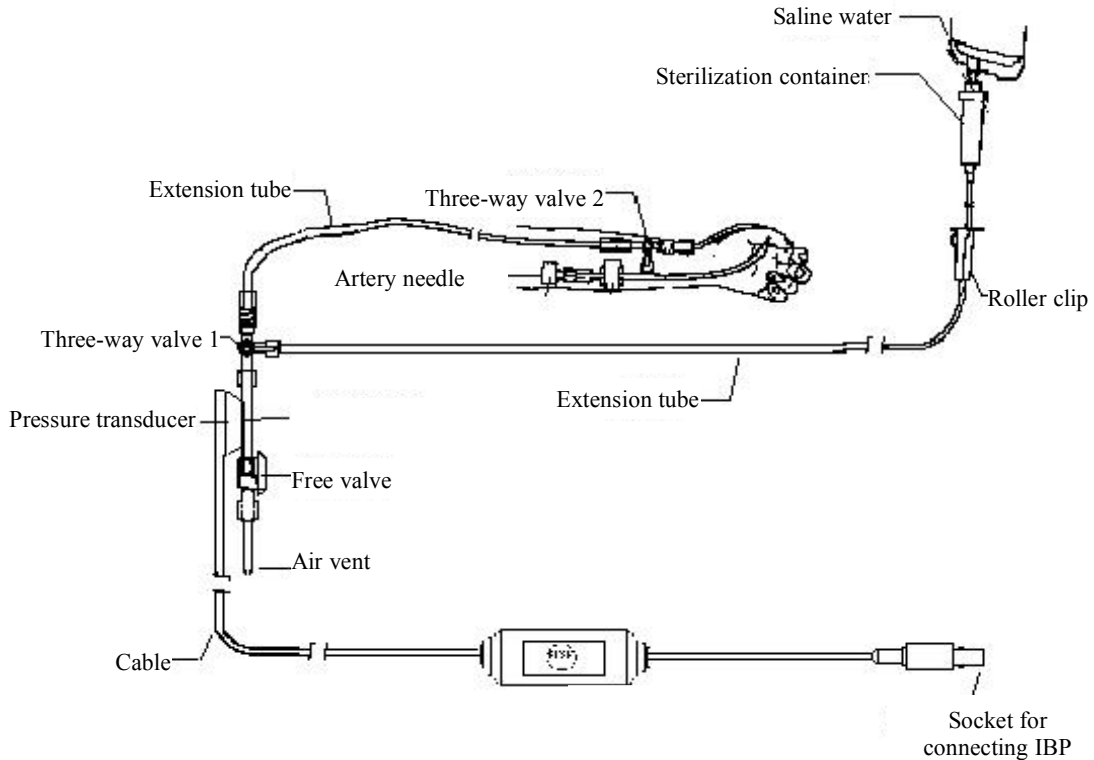

Fig. 5-6-4 Schematic diagram for installation of IBP sensor
- 2) Plug the cable of IBP into the IBP socket on the right panel of the monitor. Connect the extension tube of the transducer and blood vessel with the artery needles and secure them, then make sure three-way valve 1 and three-way valve 2 (See Fig. 5-6-4) are in a state of ON. At this moment, BP waveforms should appear on the screen of the monitor.
As shown in Fig. 5-6-4